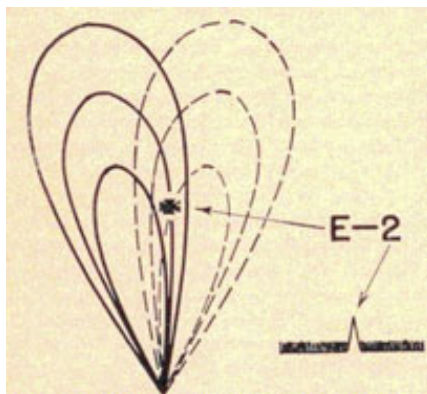

Figure 1-22. Lobe to port.
1. Direct the energy out to the port side of the antenna direction and get an echo back. The size of this echo will depend, of course, on the part of the lobe in which the target appears (see fig. 1-22). With this sketch, the echo would be about an E-2 echo.